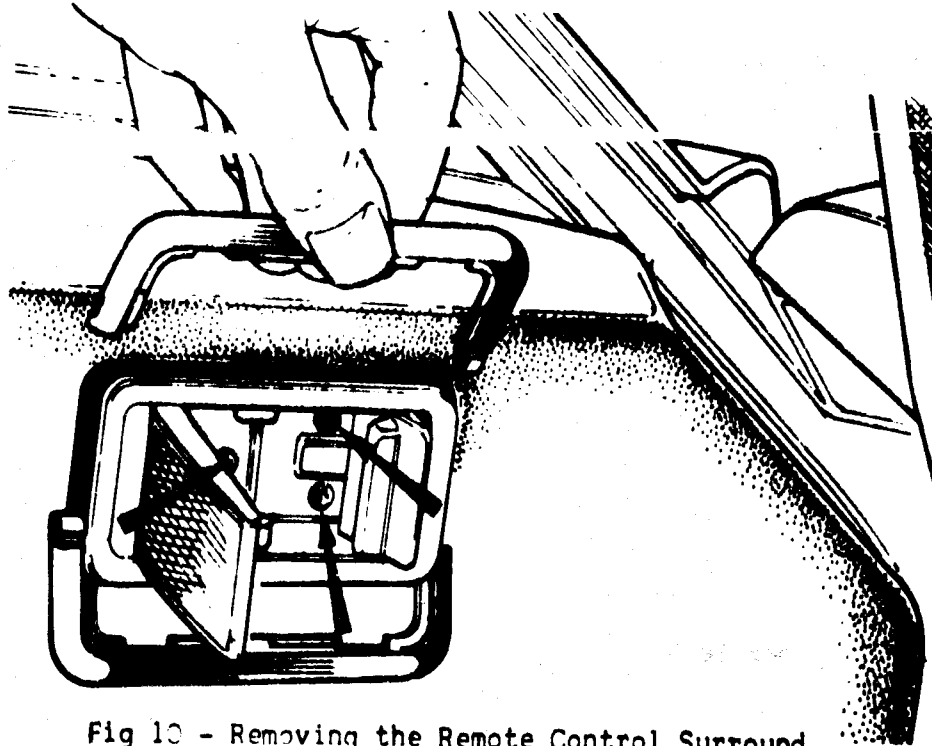

Fig 10 - Removing the Remote Control Surround.
1. Remove the three screws securing the remote control handle to the door. Remove the block plastic trim surround in two halves (see Fig.10). Note that the handle cannot be released until after the trim pad is free.